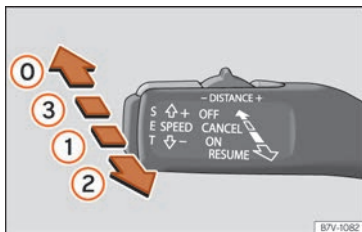
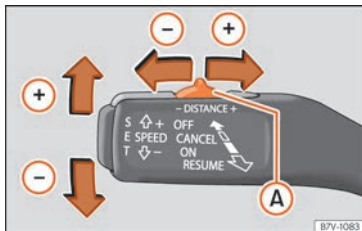

Fig. 264 On the left of the steering column: third lever for operating the Adaptive Cruise Control.
Fig. 265 On the left of the steering column: third lever for operating the Adaptive Cruise Control.
Once you are driving, if you wish to set the current speed as the vehicle's cruise speed and activate the ACC, press the **SET** »» **Fig. 265** button. If you wish to increase or reduce speed by intervals of 1 km/h (0.6 mph), move the lever to position ② »» **Fig. 264** or press the **SET** button, respectively.
To increase/reduce the distance level, press the rocker switch towards the left/right »» **Fig. 265 (A).**
- To activate the ACC, with the third lever in position ① press the **SET** button or move the third lever of the ACC to position ② »» **Fig. 264**. At this point, the image of the
To disconnect the ACC move the lever to the  position »» Fig. 264 (engaged). An **ACC deactivated** message appears and the function is totally deactivated.
If you do not wish to disconnect the ACC, just to switch it temporarily to inactive mode (Standby), move the third lever to position  »» Fig. 264 or press the brake pedal.